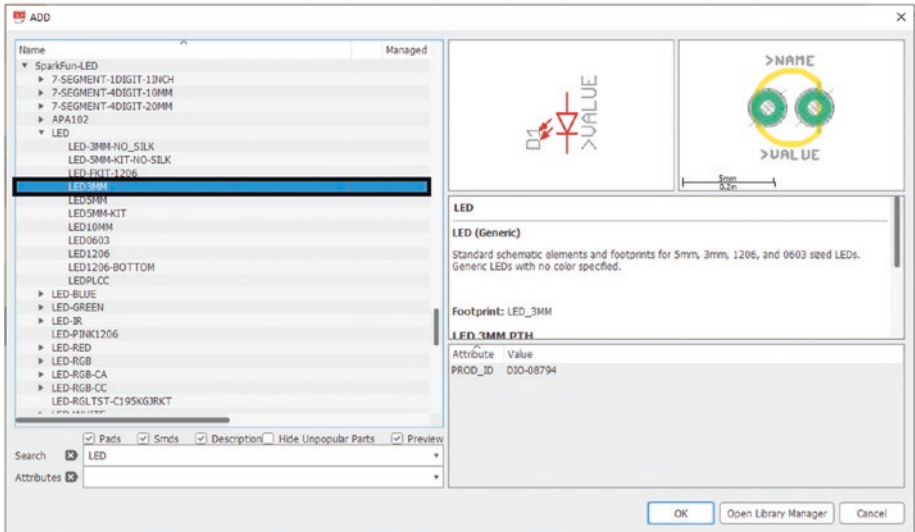

Figure 5-25. Select LED3MM
12. Scroll down to the SparkFun-LED ► LED drop-down and double-click the “LED3MM.” See Figure 5-25.